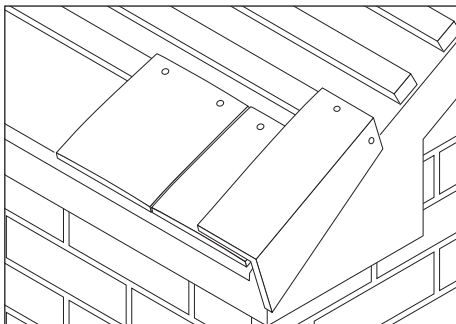

Fig. 3 – Eaves course
- 3 Commence laying an under eaves course of tiles using a standard eaves tile or a cloak verge tile cut down to size (Fig. 3). Where possible use a standard eaves tile, but establish what will be required for the top course at the roof apex, to ensure that the same unit is provided on both sides of the apex. In this way, opposite gable ends can be constructed with cloak verge tiles in different courses, but will still maintain a balanced appearance when viewed from the ground.
- 4 Nail the eaves cloak verge tile with 2 No. 38mm x 3.35mm aluminium or stainless steel ring shank nails to both top and end of the tiling batten using the holes in the top and vertical leg. Alternatively, if the verge construction allows, a timber batten can be secured to the outer edge of the bargeboard or gable wall to assist nailing the vertical leg of the cloak verge tile (Fig. 3).